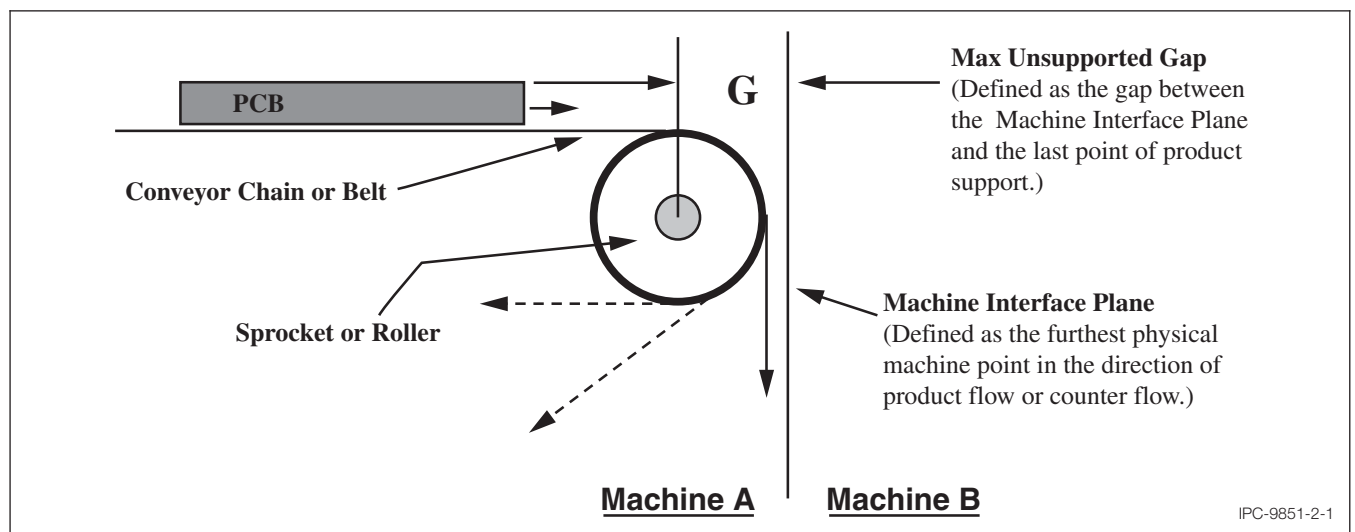

Figure 2-1 Maximum Gap
2.6 Maximum Gap The maximum unsupported gap as defined by G in Figure 2-1 is 19 mm [0.748 in].
3.5 Maximum Gap The maximum unsupported gap as defined by G in Figure 2-1 is 19 mm [0.748 in].